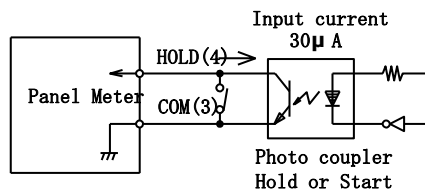

Fig. 3
Since this device has not been isolated/insulated in direct current between input terminal (LO) and COM terminal, perform, whenever available, controlling using mechanical contact signal such as a relay switch. Controlling with T.T.L or a transistor is also available. When input is floating, however, provide externally the circuit of Fig. 3 for insulation.